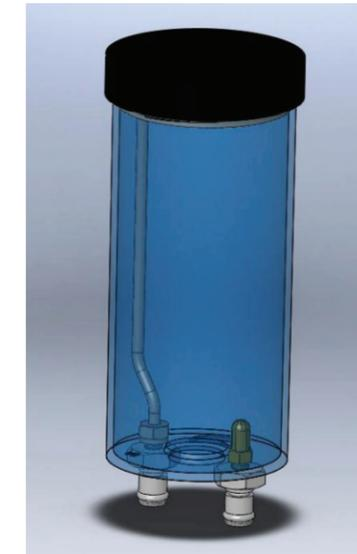

Figure 24 Desiccant cartridge
- a. Orient the desiccant cartridge or tube (Figure 24) so the lid or cap is up.